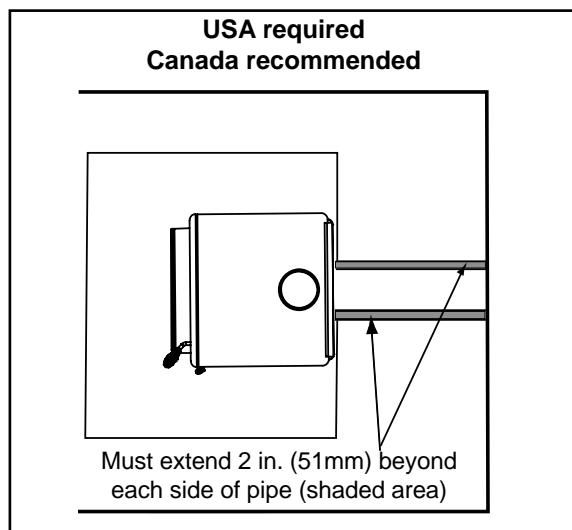

Figure 12.4
***EXCEPTION:** Non-combustible floor protections must extend beneath the flue pipe when installed with horizontal venting and extend 2 inches (51mm) beyond each side. See Figure 12.4.